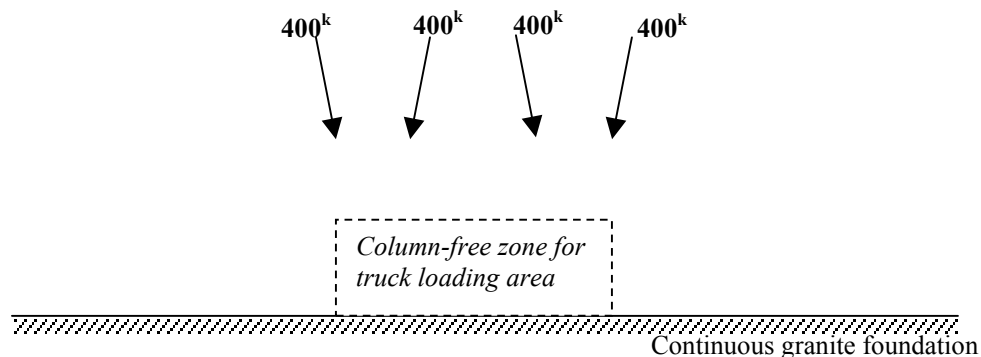

Figure 1
1) As the structural guru in Gehry's office, you must propose a system for carrying column loads over a truck loading zone in the basement of a new building. The inclined columns carry the weight of five stories above and this load must be transferred over an open space as illustrated in Figure 1. Each column carries an axial load of 400 kips and is inclined at a slope of 4:1 from the vertical as shown.
- On a separate piece of paper, draw the load line for the problem using the loads given in Figure 1. (You may choose to draw the force polygon at a convenient scale.)
- Using graphic statics, propose a structural solution in axial compression for the problem which does not interfere with the zone marked by a dashed line in Figure 1. Your arch must be supported on the granite foundation beneath the building and should be horizontal at the crown of the arch. Sketch your design on Figure 1. (Note: you may wish to experiment with several trial pole locations before deciding on the final form.)